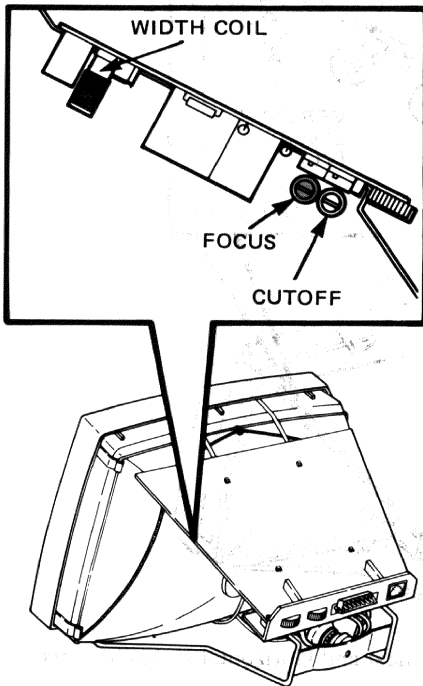

Figure 4-7 Focus Control
2. If the lines are not sharp and well-defined, adjust the focus control (FOC) for the sharpest overall display (see Figure 4-7).